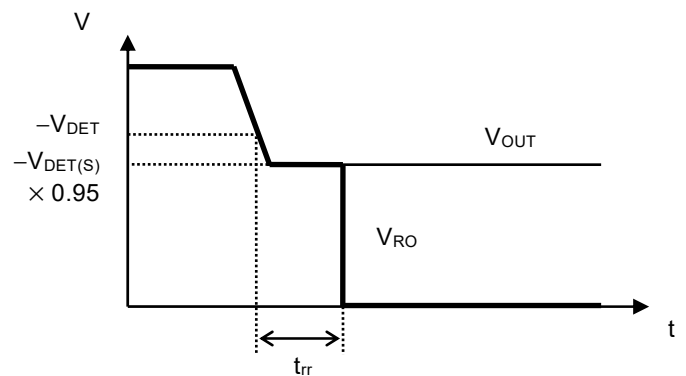

Figure 6 Reset Reaction Time
- *4. The time from when V_{OUT} falls below -V_{DET} to when the RO pin output inverts (Refer to **Figure 6**). The time period from when V_{OUT} changes to V_{OUT(S)} → -V_{DET} to when V_{RO} reaches V_{OUT} / 2.